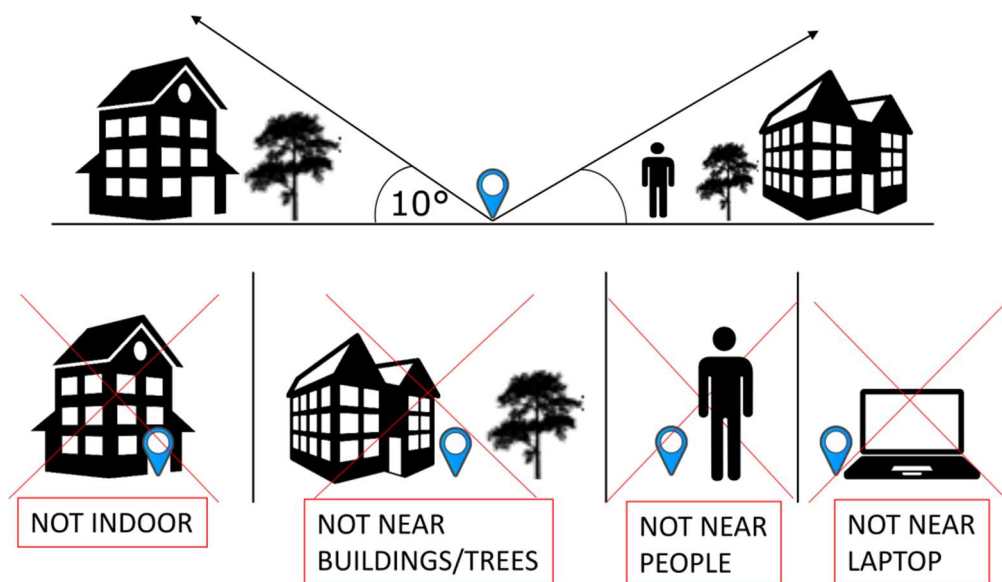

Figure 29: Reference Station placement guideline
- Please connect the GNSS antenna with the marked SMA connector to the Reference Station. The GNSS antenna must stay outside with open-sky environment (see Figure 29).
**Recommendation:** The GNSS antenna should be fixed mounted on position outside with best possible satellite visibility (see Figure 29). A recommended place would be the roof of a high building or similar places. The RTK correction data of the Reference Station are highly accurate for rovers within 15 km distance from rover (MS-RTK module) to Reference Station. A common way is to fix the Reference Station on a location where the user can calibrate the position once a time and don't change the position again.